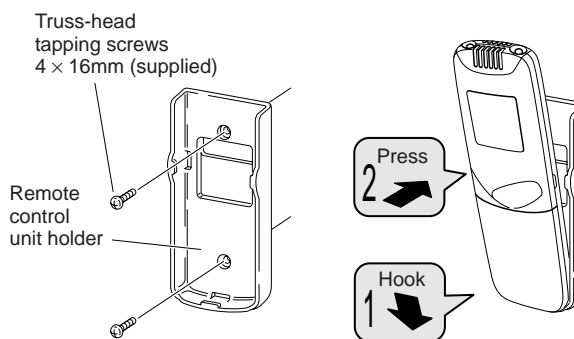

Fig. 7
- (1) Confirm the indoor unit beeps when the ON/OFF button is pressed at the wall location where the remote control unit is to be attached, then attach the holder to the wall. (Fig. 7)
- (2) When taking out the remote control unit, pull it from the holder. (Fig. 7)